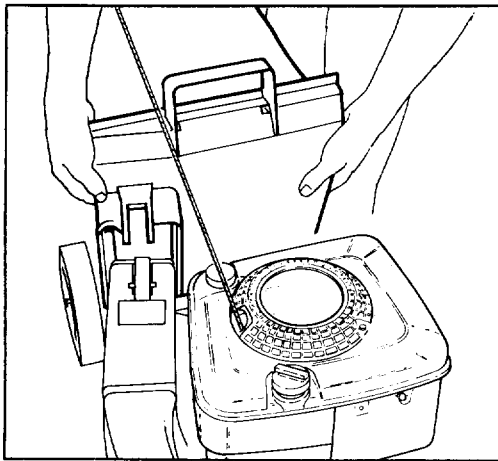

Figure 13
3. **INSTALLING BAG** (Fig. 13)—Hold front of bag frame and bag door together. Then place opening in bag door against flanges on rear chute and slide bag door down. Set rear of bag frame onto lower handle crossbar.